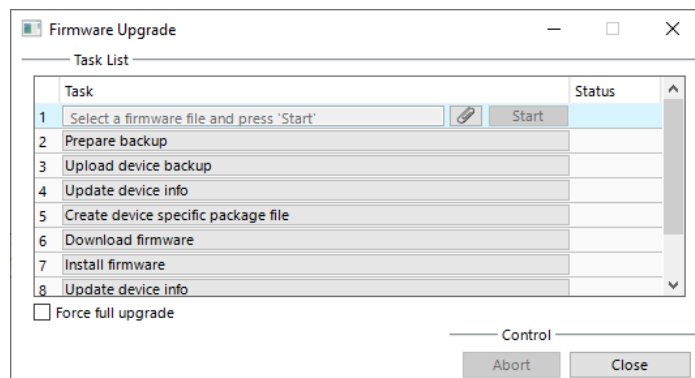

Figure 93: Firmware Update dialog of the Configurator.
8. This opens the **Firmware Update** dialog as shown in Figure 93. Click on the button  and select the firmware image.